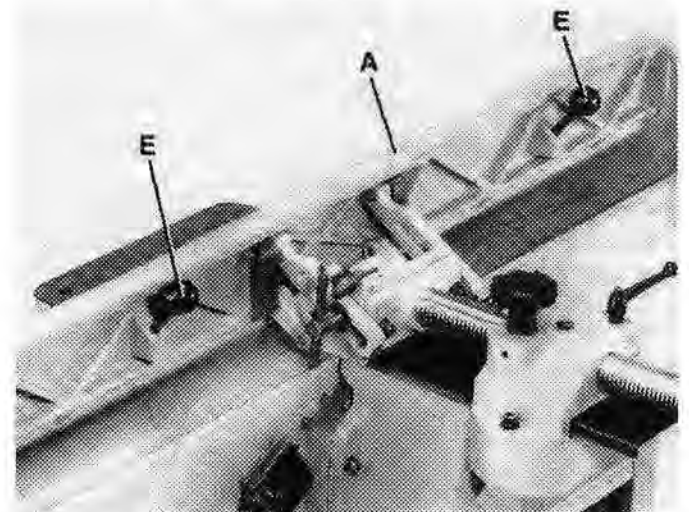

FIGURE 13
3. Thread two fence adjustment handles (E) Fig. 13, into the rear of fence (A) as shown.